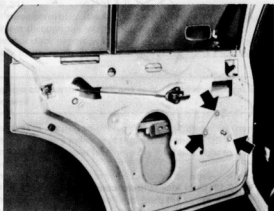

Fig. 12.13. Rear door window regulator retaining bolts (Sec. 14)
- 2 Remove the three securing screws shown in Fig. 12.13 and lift out the regulator assembly through the aperture in the inner door panel.